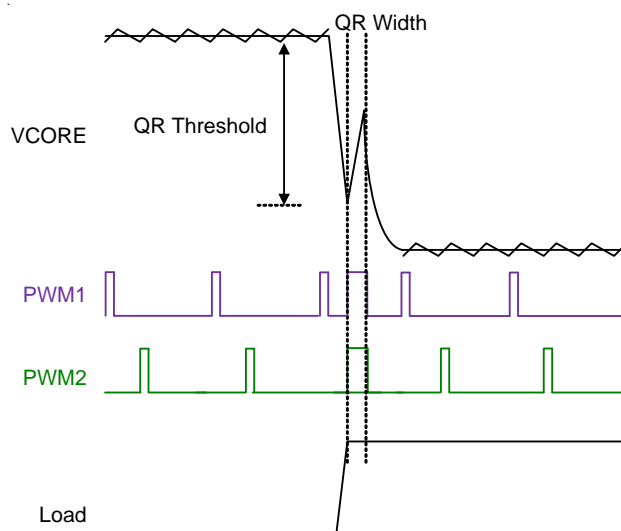

Figure 12. Quick Response Mechanism
When the transient load step-up becomes quite large, it is difficult for loop response to meet the energy transfer. Hence, the output voltage generate undershoot to fail specification. The RT8886A has Quick Response (QR) mechanism being able to improve this issue. It adopts a nonlinear control mechanism which can disable interleaving function and simultaneously turn on all UGATE one pulse at instantaneous step-up transient load to restrain the output voltage drooping, Figure 12 shows the QR behavior.